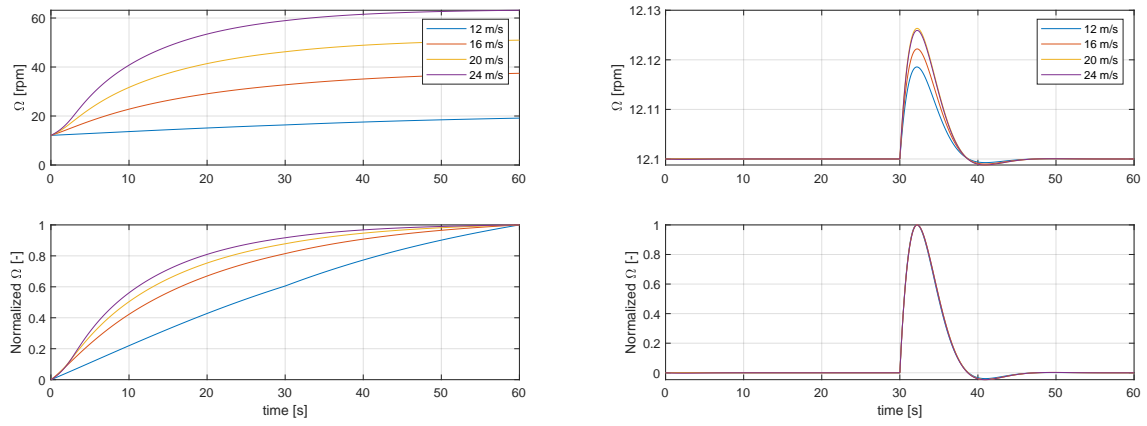

Figure 1: Start (left) and solution (right) of Exercise 3.
With the control parameters in NREL5MWMWDefaultParameter\\_FBNREL\\_EX3, the wind turbine remains again uncontrolled, see Figure 1 (left).
The objective is to have a close loop transfer function with a damping of 0.7 and a natural angular frequency of 0.5 rad/s at all 4 operation points, see Figure 1 (right).
- Please implement the pitch controller in the subsystem `FBNREL/Pitch Controller` in the Simulink model NREL5MW\\_FBNREL\\_SLOW1DOF\\_EX3.mdl without anti-windup but with gain scheduling (via interpolation) to obtain the correct results, see Figure 1 (right). You can use the “Saturation Dynamic” block for the saturation and the “1-D Lookup Table” for the gain scheduling.